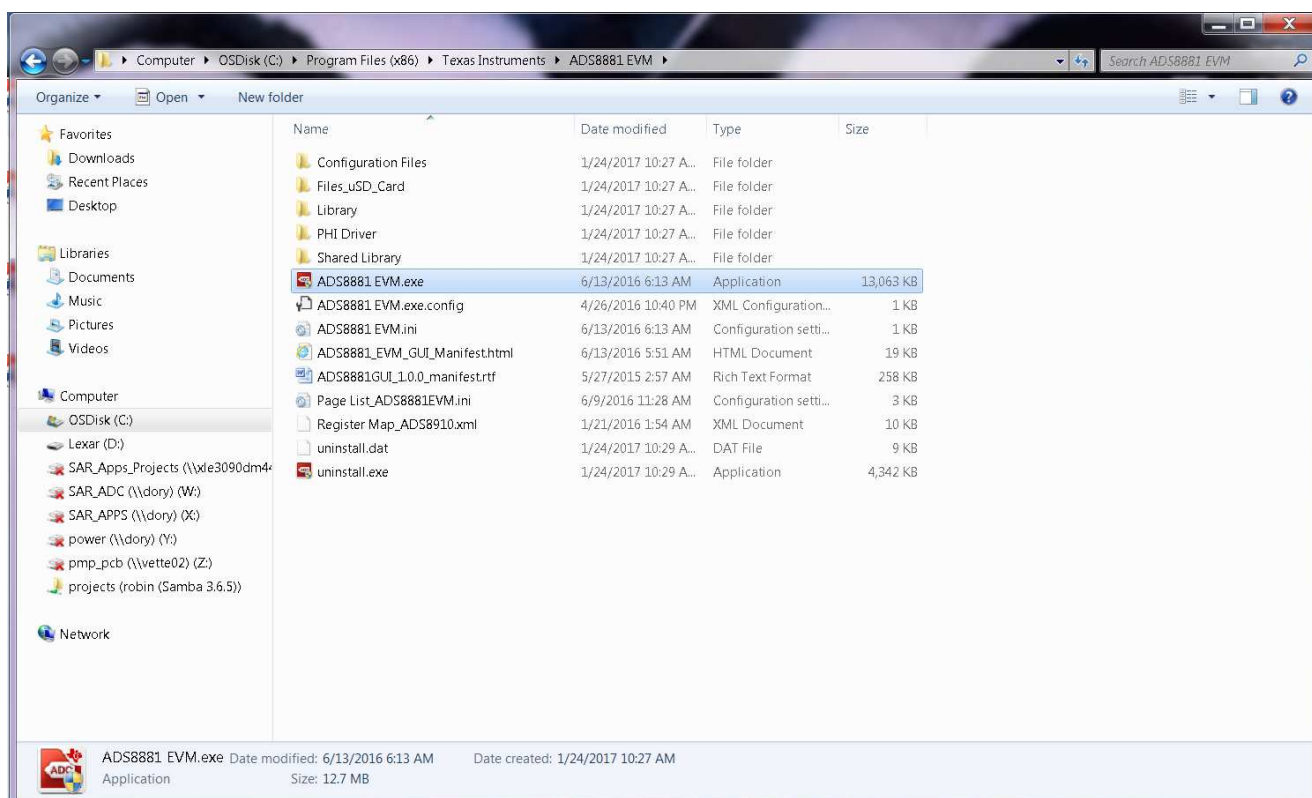

Figure 8. Launch the EVM GUI Software
3. Launch the ADS8881EVM GUI software, as shown in Figure 8. The rate at which LED D2 blinks slows down, indicating that the GUI is successfully communicating with the ADS8881EVMV2.